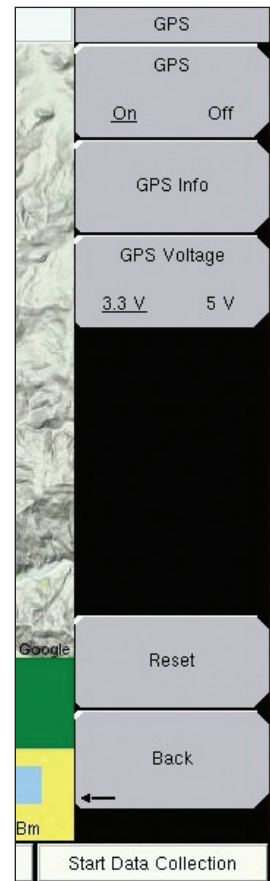

Figure 11. GPS Menus
To begin mapping connect a GPS antenna to the S412E, then turn the GPS receiver on by pressing Shift + System (8), and then the GPS soft-key. If not already in the P25 Analyzer application, press the Menu hard-key, then the P25 Analyzer icon on the touch screen. In the GPS sub-menu, you can turn the GPS on or off, view GPS info, change the GPS Voltage, or reset the GPS. After a minute or two, the S412E should be tracking at least four GPS satellites (Figure 11).